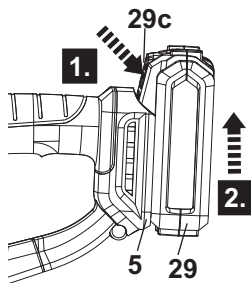

Fig. 17
2. Press the release button (29c) and remove the battery pack (29) from the battery docking port (5) (Fig. 17).